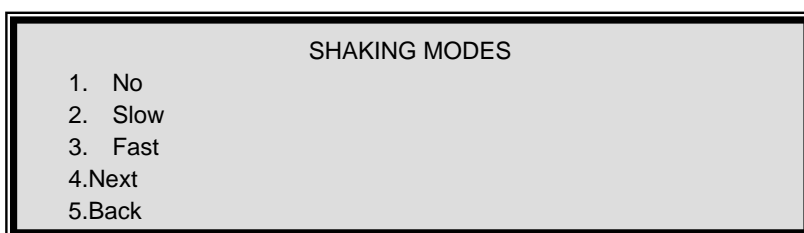

Fig. 11: Shaking Modes
3. The first type is set as default. If it is equal to the demand, you can press **Enter** key and go into the sub menu (Fig. 11).
2. Default report mode is concentration mode. If you only need to print concentrations of each sample, press **Enter** key to go into the sub menu (Fig. 11);